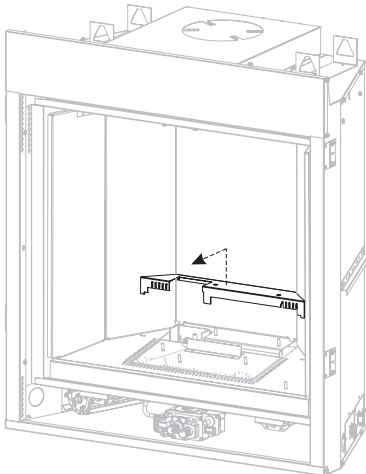

Figure 7
4. Remove the modern cover by lifting off. **See Figure 7.**
22. Replace modern cover removed in step 4. **See Figure 7.**